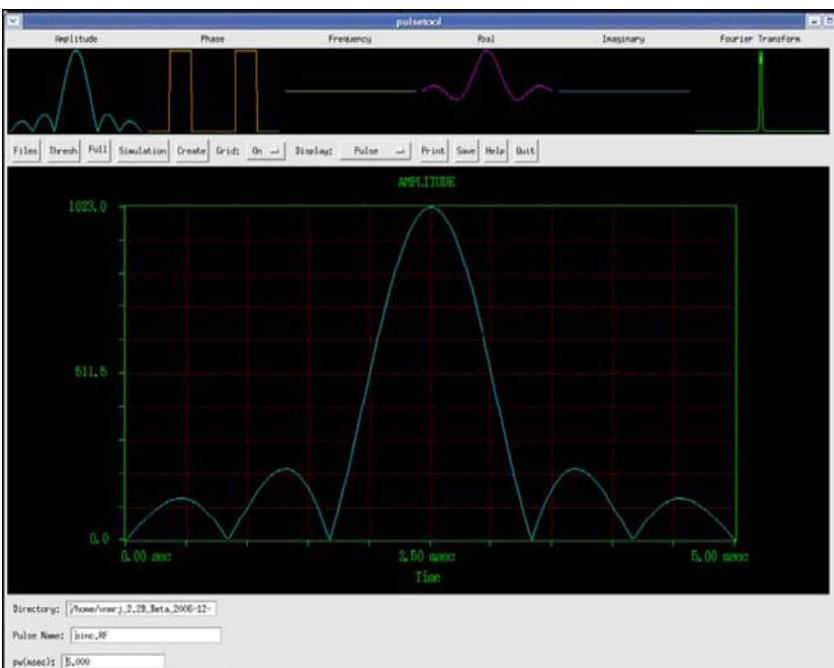

Figure 118 Pulsetool spin simulation window
- 3 Start **Pulsetool**, see Figure 118, using one of these procedures: